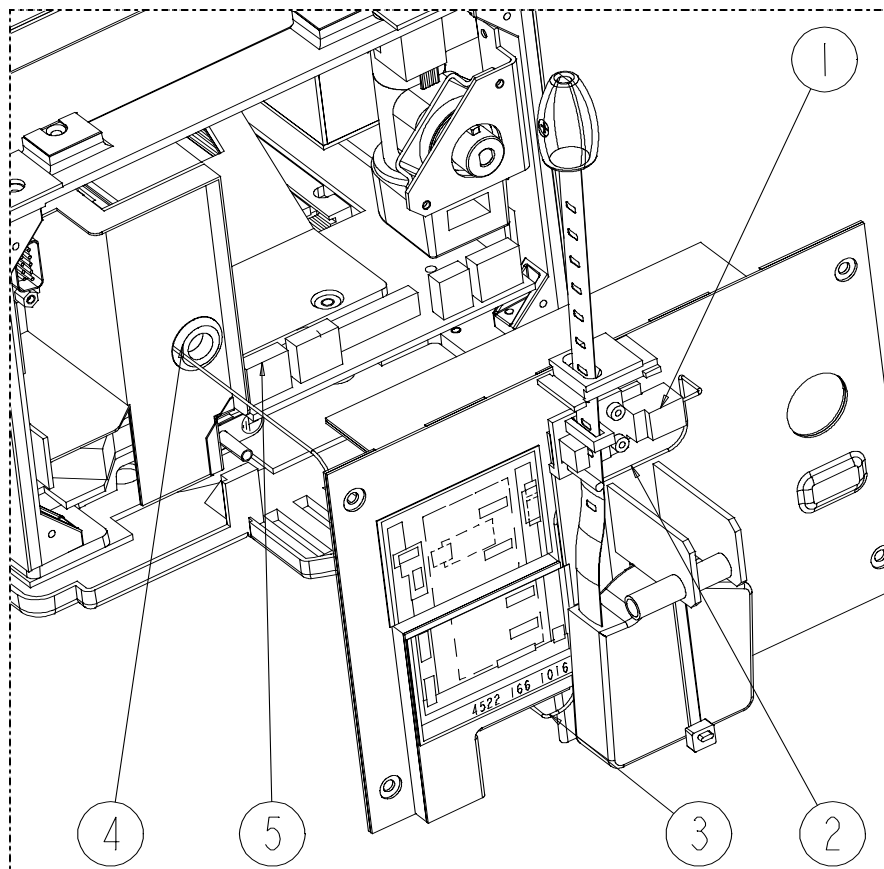

Figure 15: Connect electrical ruler cable
Figure 15 page 34 gives in more detail, the connection of the cable of the electronic ruler. In case of connection/disconnection of the electronic ruler cable, following steps have to be taken:
2. Remove connector LA1X5 (item 5 Figure 15) and cable (item 2 Figure 15). Cable must be removed by pulling connector LA5X1 (item 1 Figure 15) through the hole (item 4 Figure 15) in LA1.
5. Guiding ruler cable (item 3) together with power supply and CAN cable(s) through cable guidance.